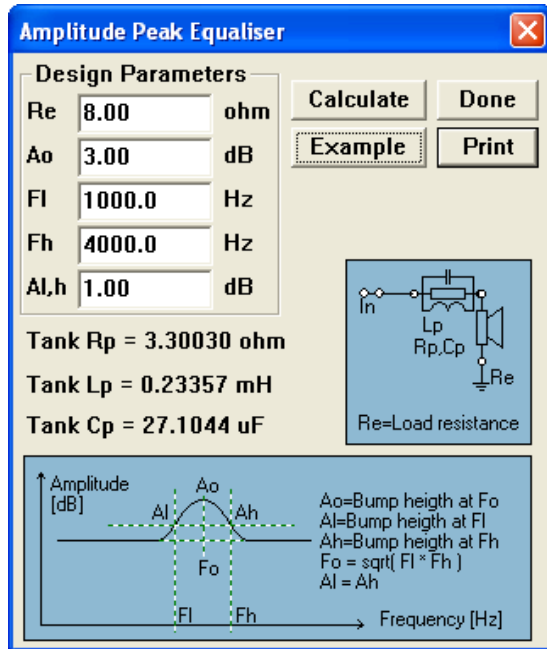

Figure 8.28 Amplitude Peak Equalizer.
4. Amplitude Peak Equaliser (see Fig 8.28)